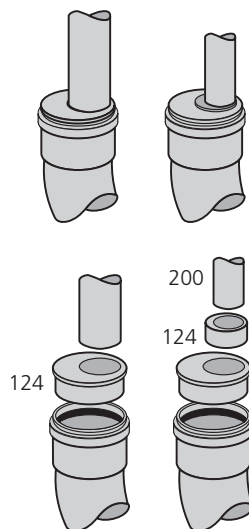

Fig. 29
- **110mm Underground Pipe to 82mm Soil Pipe (Fig. 29)**